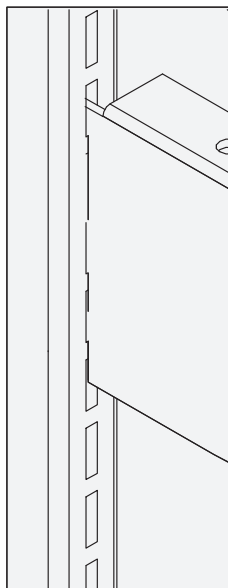

Fig. 12A
- A. Insert Desktop Support Brackets firmly into vertical slotting with "teeth" facing downward (Fig. 12A).